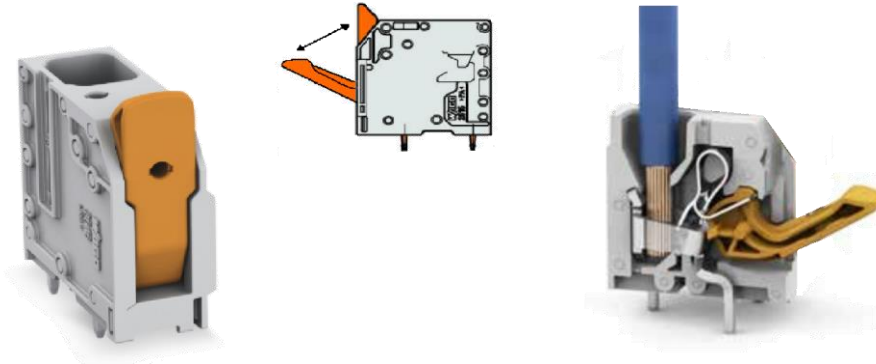

Figure 9 – WAGO Connectors – FOR REFERENCE ONLY
7. Pull orange clamp on the WAGO connector on the MCM down and away from the MCM to prepare for wire installation as shown in Figure 9.